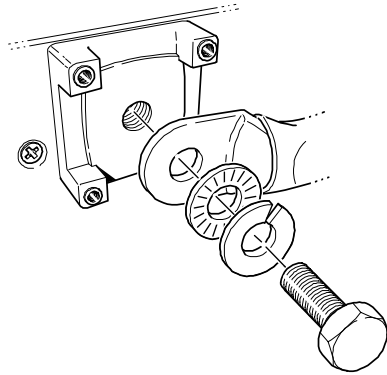

Figure 7 DC Cable Connections
Use only appropriately sized copper cable. Loose connections or improper connections will overheat. Make sure the bolts supplied by Xantrex on the inverter/charger are tightened to a torque of 15–16 ft-lbs (20.4–21.7 Nm). Torque all other connections to the manufacturer's specifications. Make sure the DC cable, washers, and bolt are assembled in the order shown in Figure 7.
3. Connect one connector on the POSITIVE (+) cable to the POSITIVE DC terminal on the inverter/charger, as shown in Figure 7. The connector goes on first, then the flat washer (steel), lock washer (steel), and 3/8" bolt (brass).
5. Connect one connector on the NEGATIVE (–) cable to the NEGATIVE (–) DC terminal on the inverter/charger, as shown in Figure 7. The connector goes on first, then the flat washer (steel), lock washer (steel), and 3/8" bolt (brass).